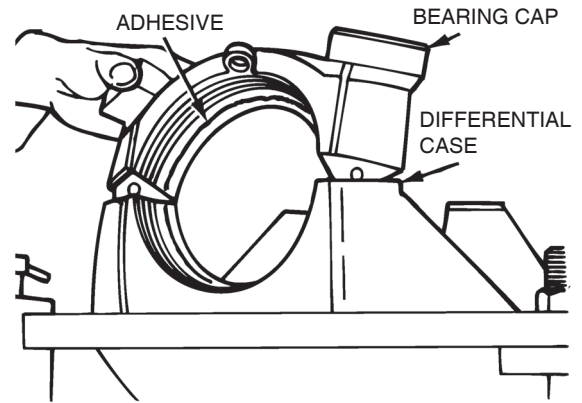

Figure 5.31
4. Apply adhesive 2297-T-418, evenly in the bearing bores and bearing caps of the legs the differential case. Cover the surfaces completely. The adhesive must not contact the adjusting ring threads. Figure 5.31. See the Section 4.